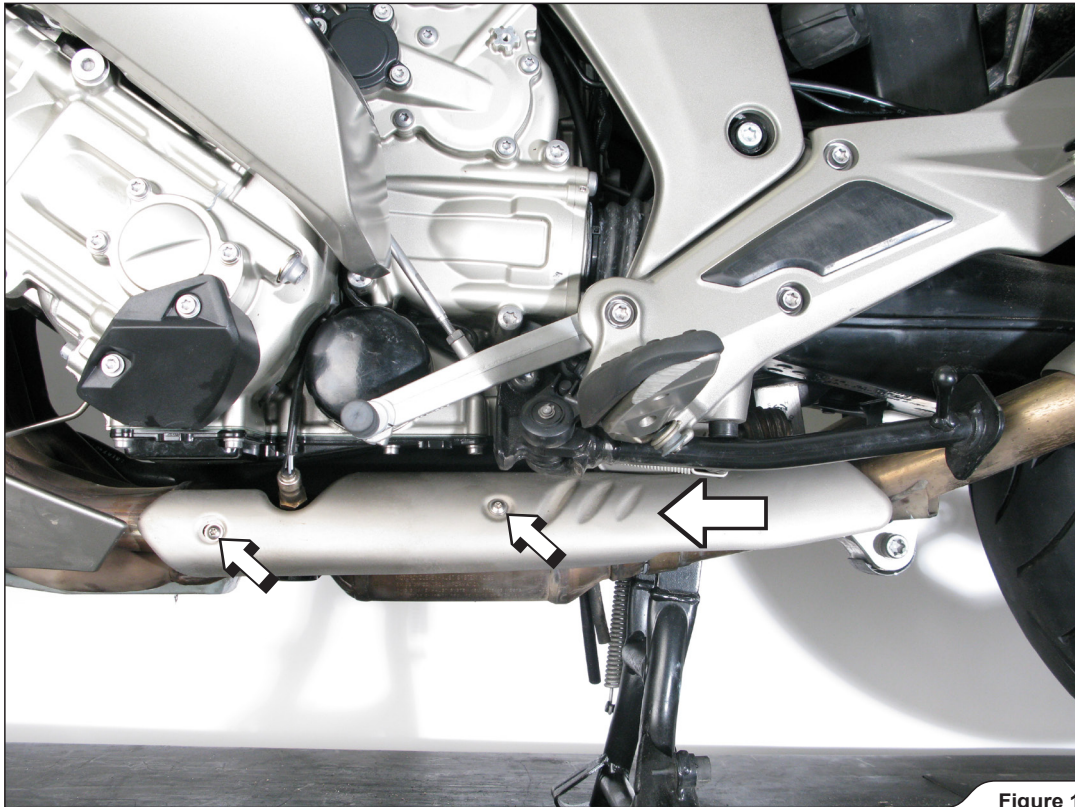

Figure 1
2. Unscrew the marked bolts and slide the original heat shields in marked directions, off the motorcycle (Figure 1, 2).